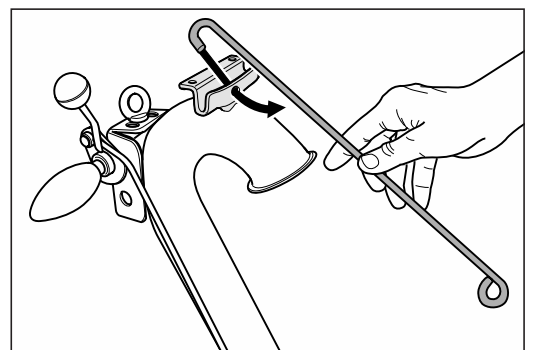

Fig. 9 Mount the cable support to the console at the top of the guide tube.
- 5 Mount the cable support to the console at the top of the guide tube (fig. 9).